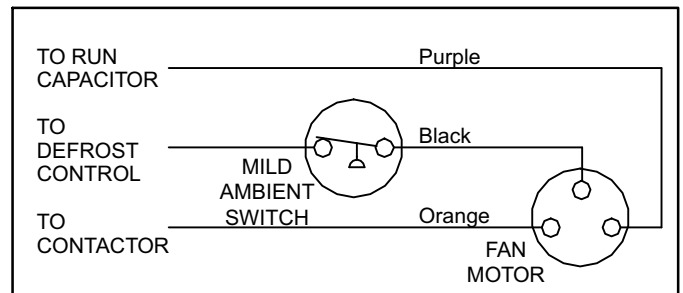

Figure 2. Typical Wiring Connections
4. Connect wire terminals of mild weather pressure switch (and relay as needed) as shown in typical wiring connections diagram (figures 2 through 8).